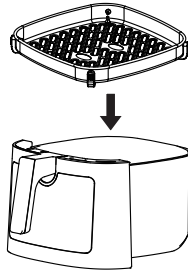
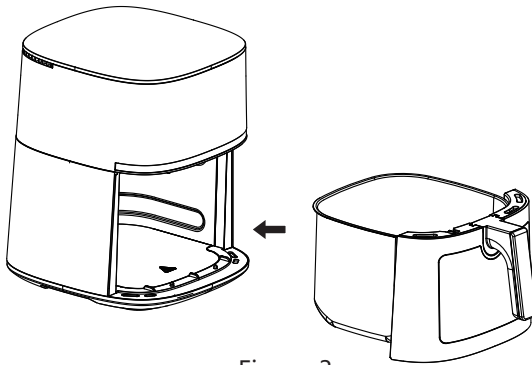

Figure 2
Figure 3
2. According to different configurations install the barrel assembly (Figure 2), then push it into the Main unit (Figure 3).